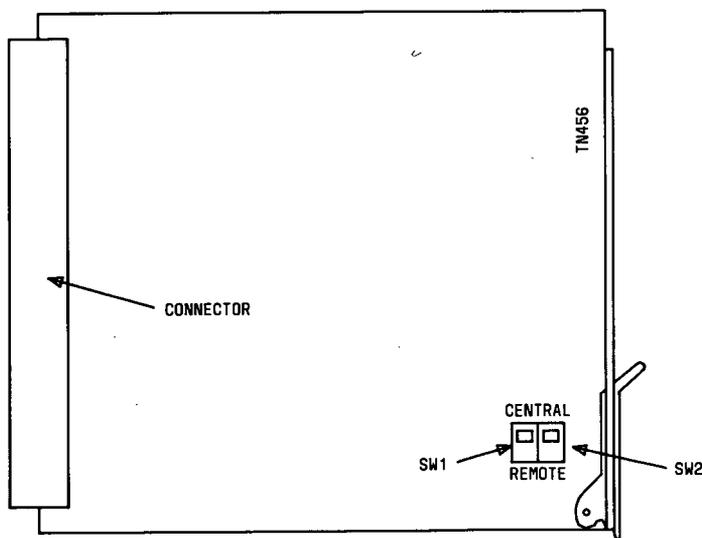

Figure 20. Option Switch Locations for TN456 Circuit Pack
4. Set option switches 1 and 2 (slide-type) on each TN456 circuit pack to **CENTRAL** or **REMOTE** for the location of the module control carrier where the circuit pack will be placed. Figure 20 is an illustration of the TN456 circuit pack and switch locations.